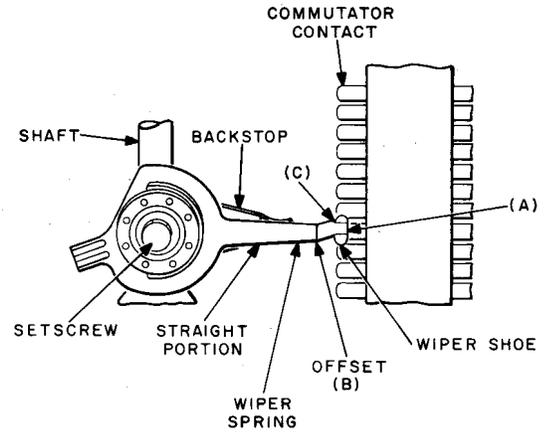

Fig. 5—Commutator Wiper and Associated Parts Bumping
2.14 Centering of Wiper on Commutator Contacts: Fig. 5(A)—With the shaft in position to cut in on any level, the center line of the wiper spring shall line up with the center line
2.15 Wiper Spring Tension: Fig. 5(B)—The tension of the wiper spring against the bottom commutator contact measured at the offset in the wiper spring between the straight portion and the tip shall be
(b) **Fig. 5(C):** With the shaft on the first vertical step and held in the rotary position in which the wiper back stop just lifts the wiper spring from the associated commutator contact, the wiper spring and the commutator contact shall overlap